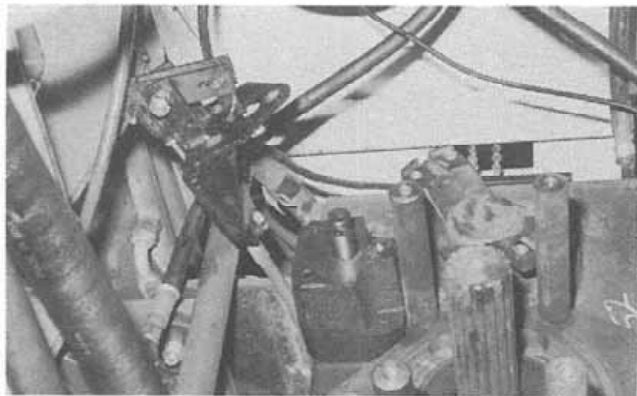

Figure 7:
8. Detach the shift cable and bracket assembly from the detent block and fork rod of the transfer case (Fig. 7), then secure it close to the frame using wire.